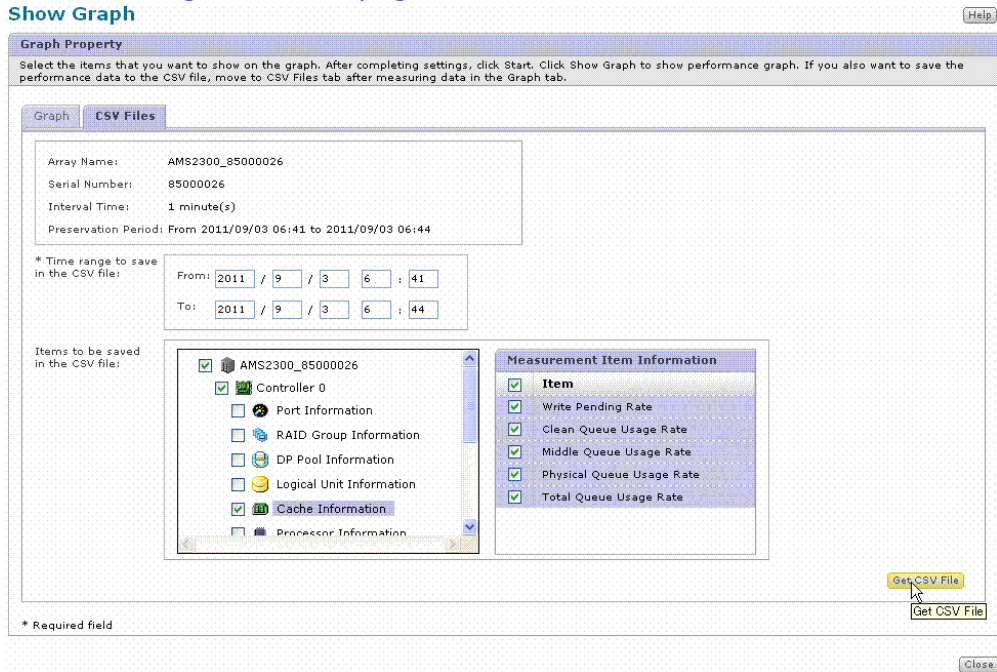

Figure 9-8: Output CSV Tab: Dynamic Provisioning Valid
5. Click **Output**. Performance Monitor displays the Output CSV Window as shown in Figure 9-8 on page 9-30.